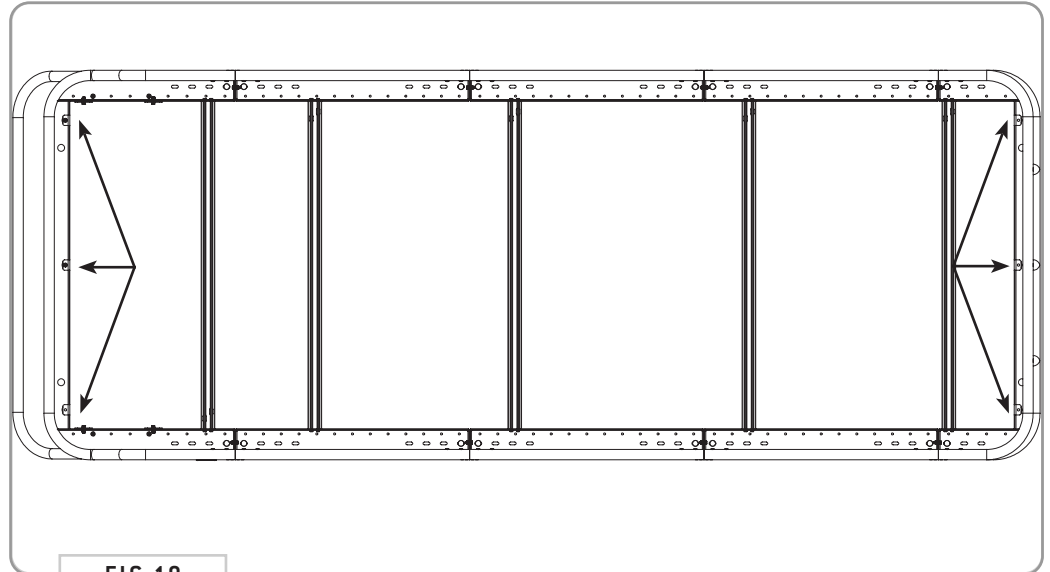

FIG 19
8.1 Attach Clip Nuts to Baskets: Install the **Clip Nuts** to the **Front and Rear Basket** locations as shown in **FIG 19**.